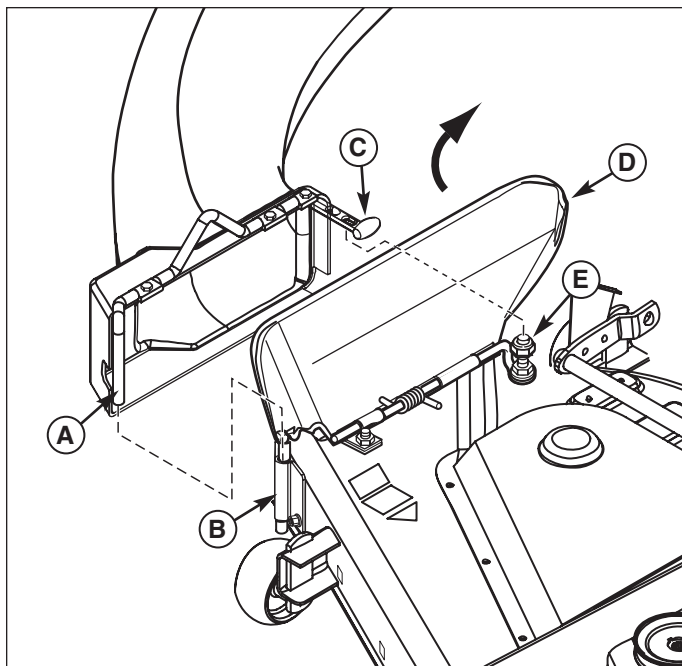

Figure 14. Install Lower Tube
1. Lift discharge deflector up (D, Figure 14).
2. Insert lower chute rod (A) into mounting plate (B).
3. Pull rubber strap (C) and secure by placing hole closest to knob in strap completely over locknut (E).